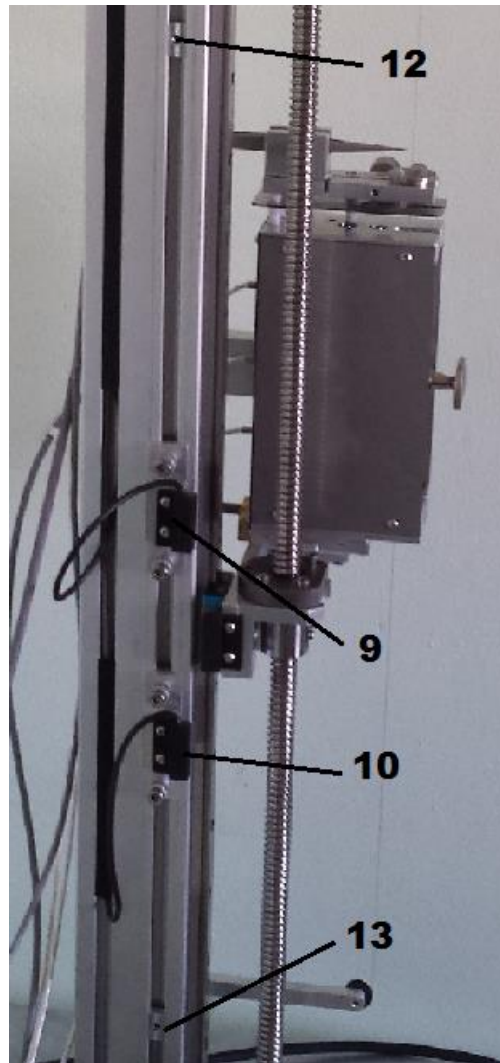

Fig.6 Limit Switches
2.3. Limit Switches is shown in Fig.6
- Set the desired range of fiber coating using the upper **9** and lower **10** limit switches (Fig.6);